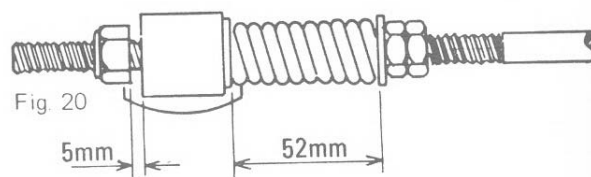

Fig. 20
3. Adjust tension on spring using lock nuts to give length of 52mm. Fig. 20.